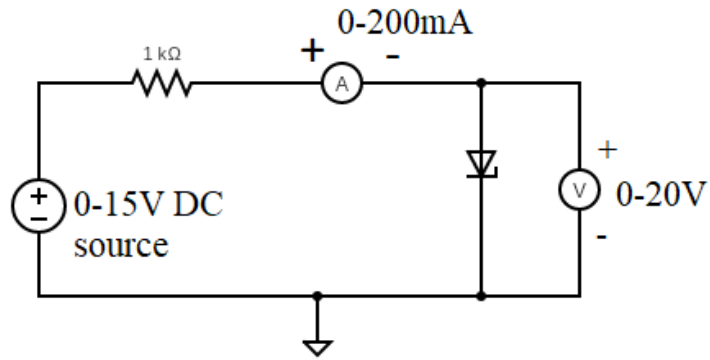

Figure 4.2: Circuit Diagram for Zener diode as forward bias
1. Connections are made as per Figure 4.2